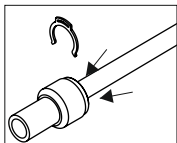

fig. 2
- 2) Symmetrically press the collets of the quick connector and pull out the tubing (fig. 2).